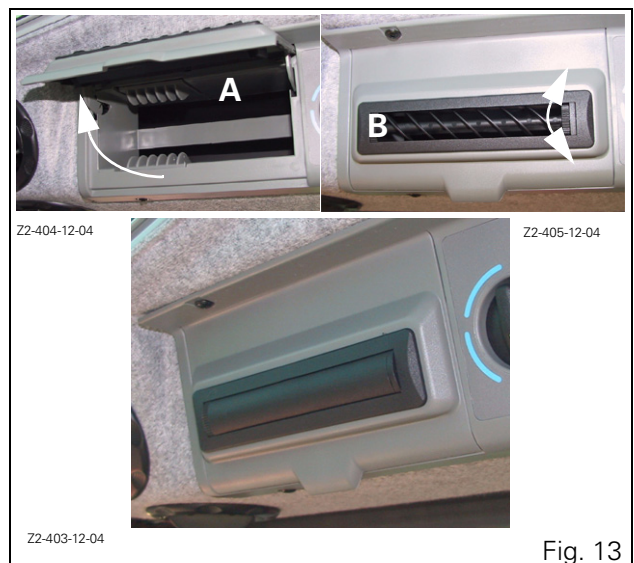

Fig. 13
10. Chilled compartment (high-visibility roof only) see detail Fig. 13).